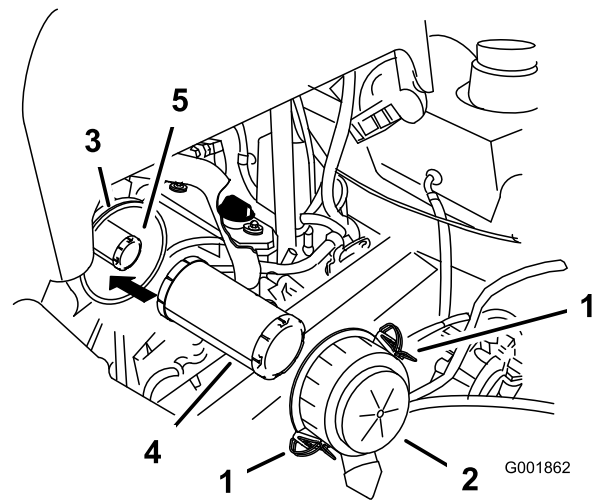

Figure 40
4. Release the latches on the air cleaner and pull the air cleaner cover off of the air cleaner body (Figure 40).
6. Gently slide the primary filter out of the air cleaner body (Figure 40). Avoid knocking the filter into the side of the body.
1. Do not clean the paper filter, replace it (Figure 40).
2. If the safety filter is being replaced, carefully slide it into the filter body (Figure 40).
3. Carefully slide the primary filter over the safety filter (Figure 40). Ensure that it is fully seated by pushing on the outer rim of the filter while installing it.
4. Install the air cleaner cover with the side indicated as UP facing up and secure the latches (Figure 40).